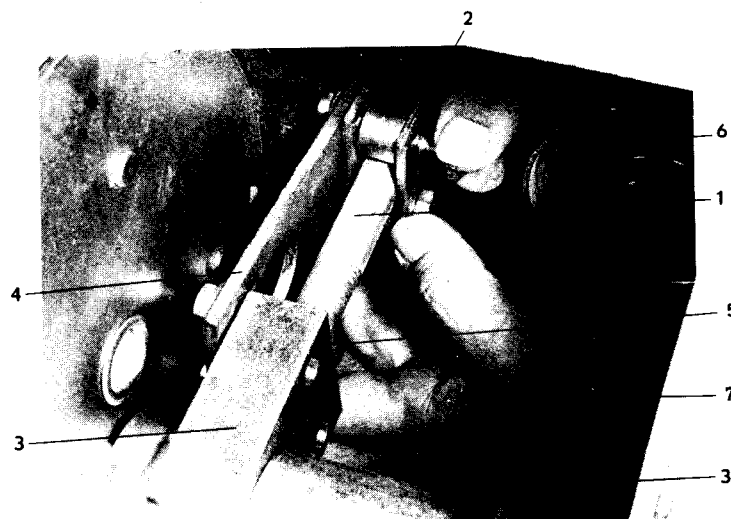
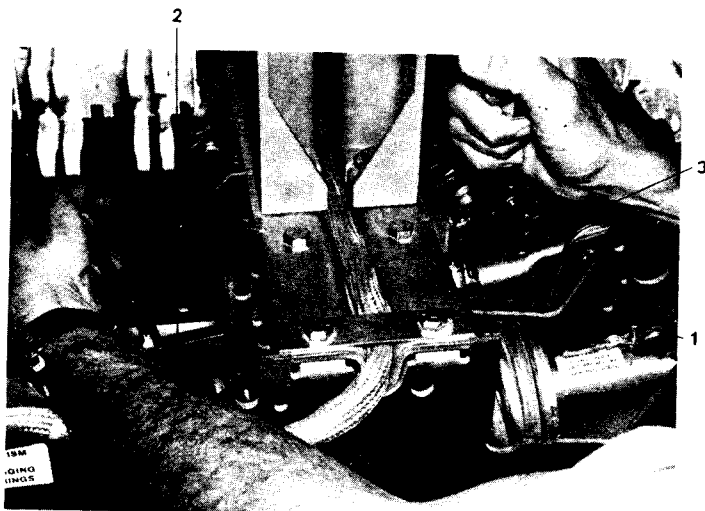

Fig. A10a Flywheel Brake
Fig. A10b Pull Rod
To remove the brake, remove the clamp, (2) Fig. A10a, that holds the brake assembly to the pullrod and then remove the two bolts that mount the brake to the flywheel block. Reinstall the new brake in the reverse order.
Charge and gag the closing spring and press the manual close push button. Remove the flywheel brake assembly (Reference paragraph A.5.20). The pull rod is a turn buckle arrangement with right hand threads on one end and left hand on the other. Loosen the jam nuts, (5) Fig. A10a and (3) Fig. A10b, on each end of the pull rod and remove the pull rod by unscrewing it. Remove the jam nuts and install them on the new pull rod. Install the new pull rod and screw both ends in simultaneously. Set the length of the pull rod initially to approximately 13¼ inch between the flywheel block, (3) Fig. A10a, and the coupling, (1) Fig. A10b, attached to the adjustable throw transfer crank. Adjust the pull rod length as described in paragraph 5.3.
To remove the closing spring charge and gag it and push the manual close push button. Push the manual trip push button to assure that the breaker is open. Disconnect the closing spring assembly, (6) Fig. A10a, by driving the roll pin out that connects the closing spring assembly to the flywheel block. The closing spring can then be removed through the bottom of the breaker.
The closing spring can be removed by driving out the roll pin that connects the closing spring, (6) Fig. A10a, shaft to the flywheel block and then removing the left rear wheel assembly and the closing spring gag interlock on the left side frame. THESE OPERATIONS MUST BE PERFORMED WITH THE CLOSING SPRING DISCHARGED. The end of the closing spring opposite the flywheel can then be forced down from the breaker frame and the closing spring shaft pulled out of the flywheel block.